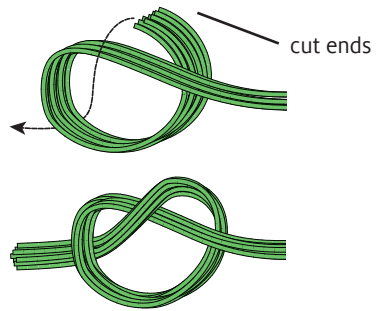

FIGURE 13: OVERHAND KNOT
1. After you have measured all the warp ends, hold all the loops in one hand and slide them off the warping peg (Figure 12A). Hold the loops tightly in your hand and use scissors to cut the ends (Figure 12B). Tie the bundle of warp threads into a loose overhand knot (Figure 13) and set aside.